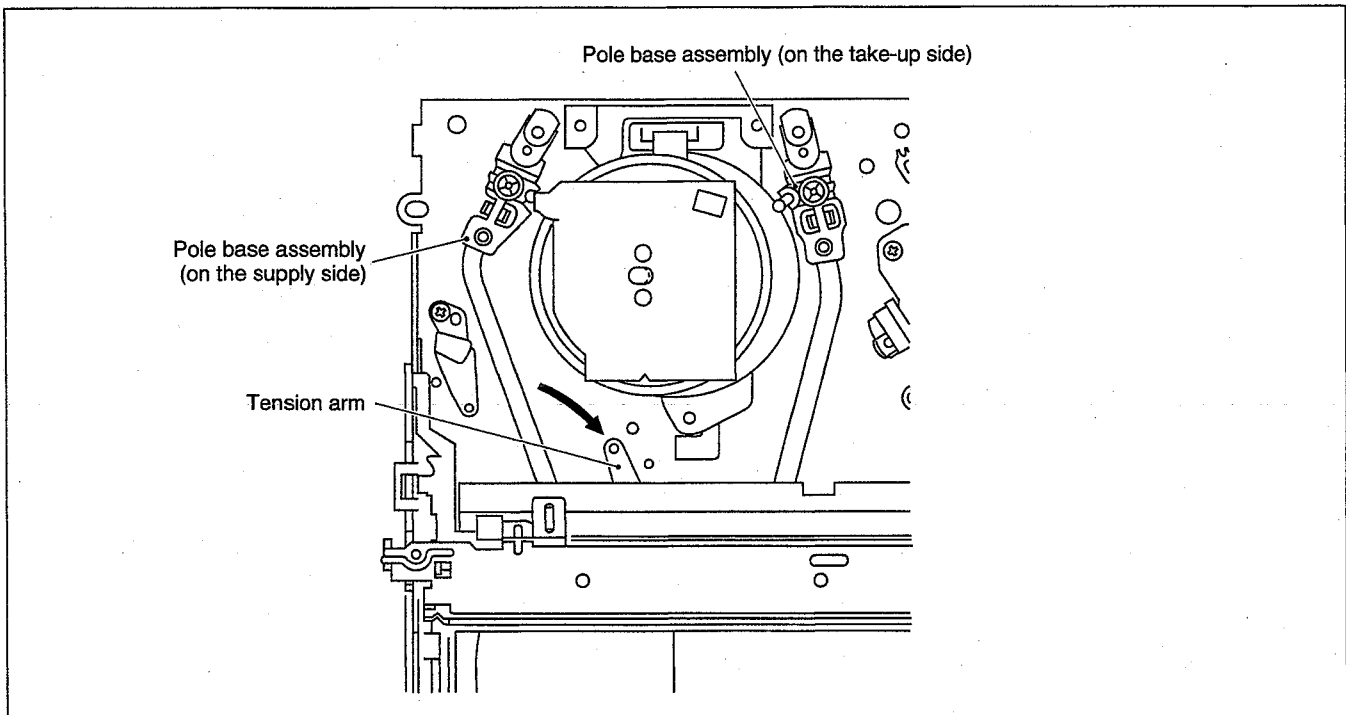

Fig. 2-1-3
- (1) Unplug the power cable and remove the top cover. (See 1.3 DISASSEMBLY/ASSEMBLY METHOD).
- (2) While keeping the tension arm of the main deck assembly free from tension, pull the tape on the pole base assembly out of the guide roller (on the supply or take-up side) (See Fig.2-1-3).